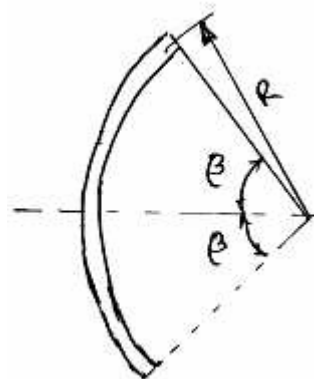

Figure 7
7. A cross-section in the shape of a circular arc of uniform thickness is subtending an angle β from either side of the symmetrical axis. Shown in figure 7. That shear centre $e=2R(\sin\beta - R\cos\beta)/(R-\sin\beta.\cos\beta)$. [16]